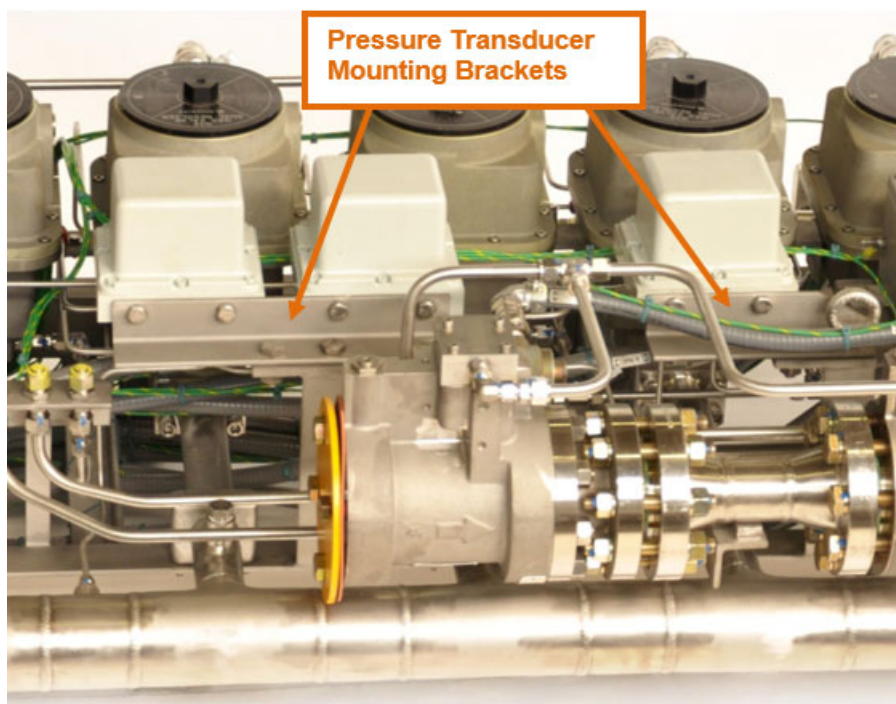

Figure 2-4. Smart Pressure Transducer Mounting Brackets
2. Two M10 bolts are used to bolt the mounting bracket to the Smart Pressure Transducer (see Figure 2-4).